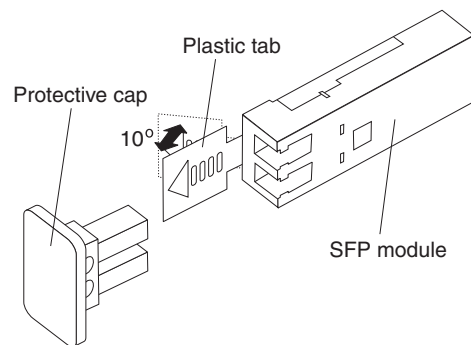

Figure 59. Unlocking the SFP module latch - plastic variety
- For SFP modules that contain plastic tabs, unlock the SFP module latch by pulling the plastic tab outward 10°, as shown in Figure 59.